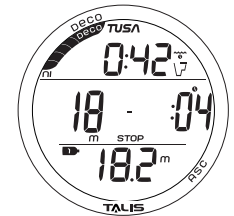

Fig. 67 - DV2 MAIN
**DV2 Main**, information includes (Fig. 67):